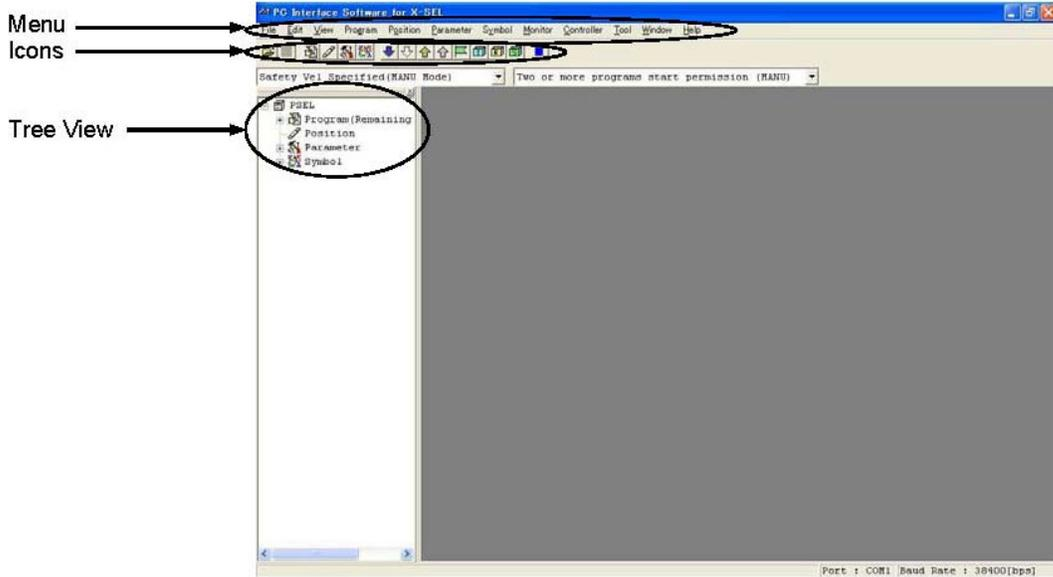

Fig. 3.8 Online Screen (PSEL Controller)
(8) PSEL controller
When this software has been started, the main window in Fig. 3.8 will open showing the menu items with icons on the tool bar in the case of the PSEL controller. The tree view appearing on the left side of the window can be displayed by clicking View (V) from the menu bar and then selecting Tree View (T). (Initial window: Main menu)